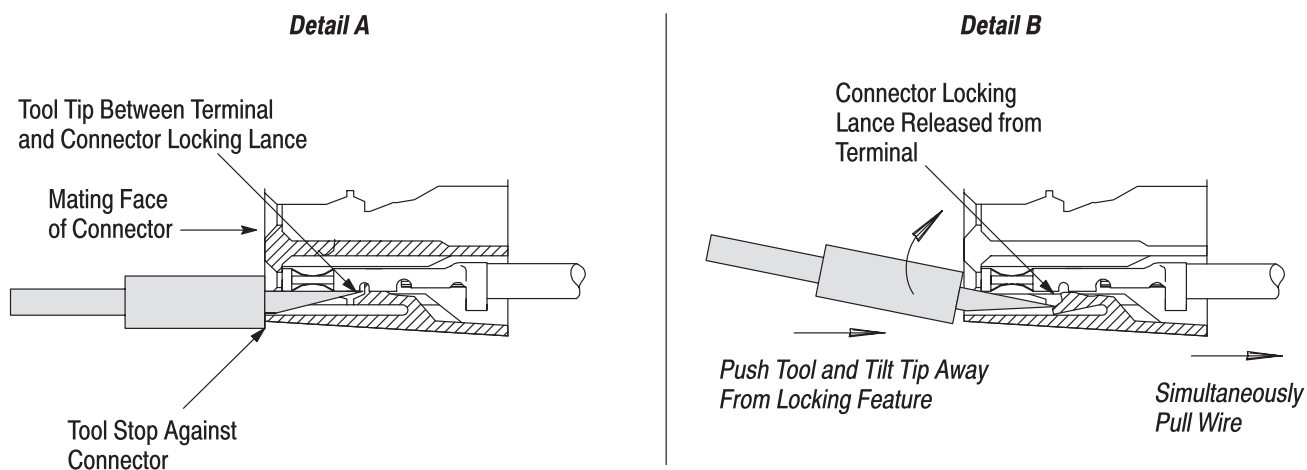

Figure 3
2. Gently insert the tool tip into the cavity until the tool stop butts against the connector. See Figure 3, Detail A.
3. Gently push the tool, and tilt the tip away from the locking feature slot to release the locking lance (inside the connector) from the locking lance slot of the terminal. See Figure 3, Detail B.